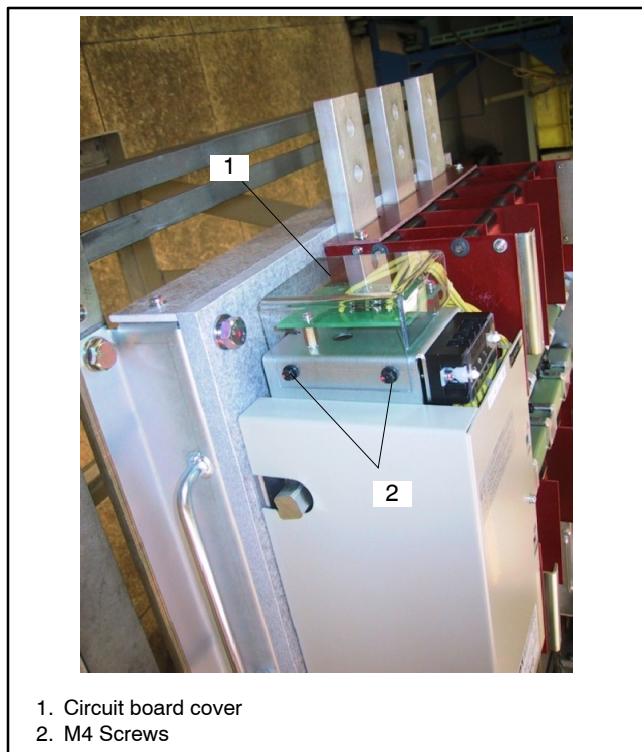

Figure 9-3 Rectifier Circuit Board Cover
2. Remove the circuit board cover. See Figure 9-3.